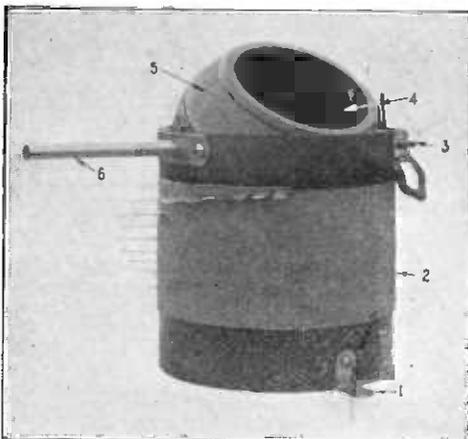

Fig. 10. A vario-coupler. (Igranic Electric Co.)
(D) A good method of coupling one circuit with another is by using a piece of apparatus called a vario-coupler. A usual construction is illustrated in Fig. 10. Here the tapped stator coil is marked 2, the rotor 4, and rotor winding 5. The rotor is carried on the shafts 6 and 3. The knob and dial are fixed to the end of 6. The vario-coupler may be fixed with screws passed through the feet 1.